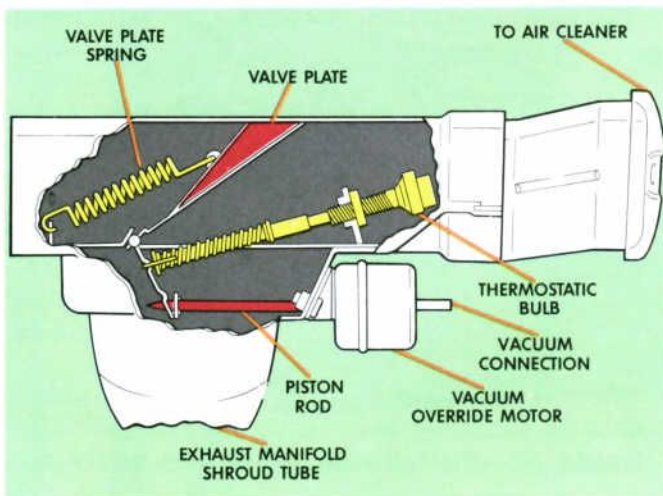

FIGURE 62. AIR INTAKE SYSTEM (68 FORD)
- If the valve does not react to heat properly, and there is no interference noted, the duct and valve assembly should be replaced. (See Figure 62.)